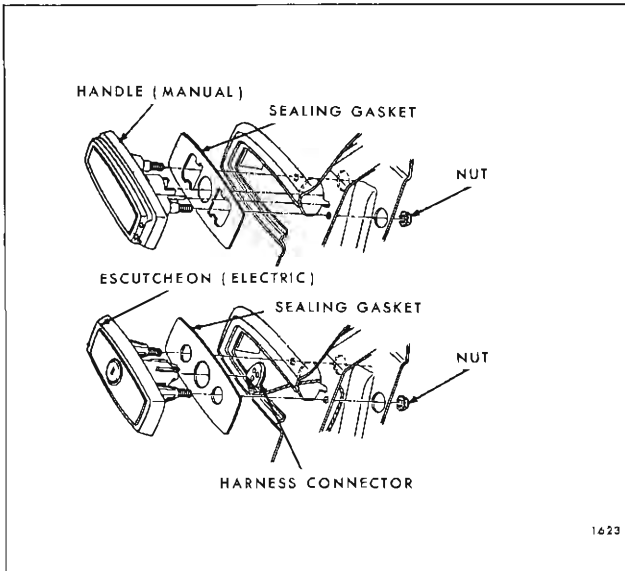

Fig. 1F29—Tail Gate Outside Handle Assemblies
2. Remove nuts securing handle to tail gate and remove handle and gasket (see Fig. 1F29).
**NOTE:** On electrical styles, disconnect wire harness from connector on escutcheon (see Fig. 1F29).
2. Remove screws securing support to tail gate and to body pillar and remove support (see Figs. 1F23 and 1F24).